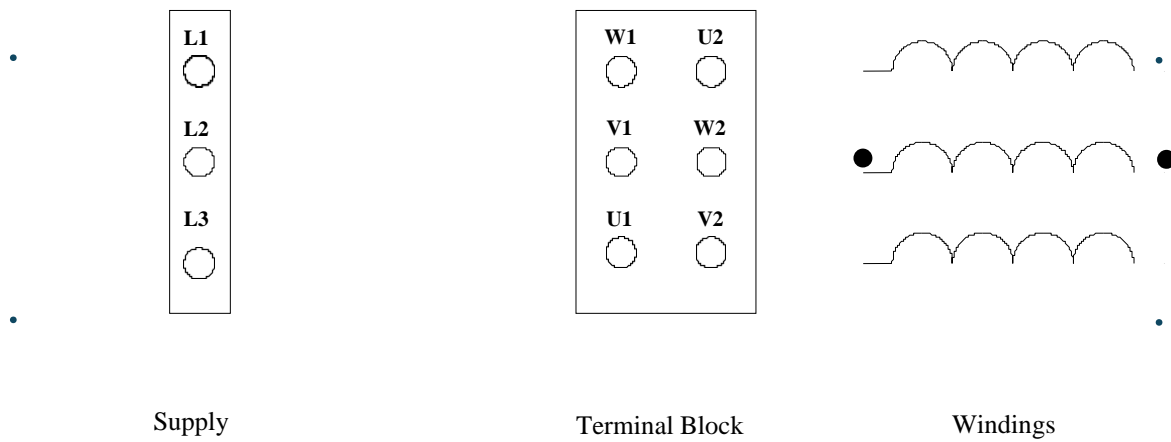
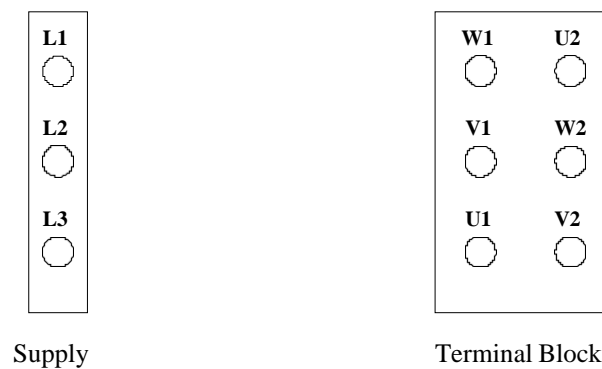

Figure 1.
Figure 2.
1. Figure 1 represents the stator windings of a three phase induction motor and it's terminal block:-
- d) Connect the terminal block of Figure 2 to the supply terminals so that the direction of rotation of the motor in Figure 1 is reversed.